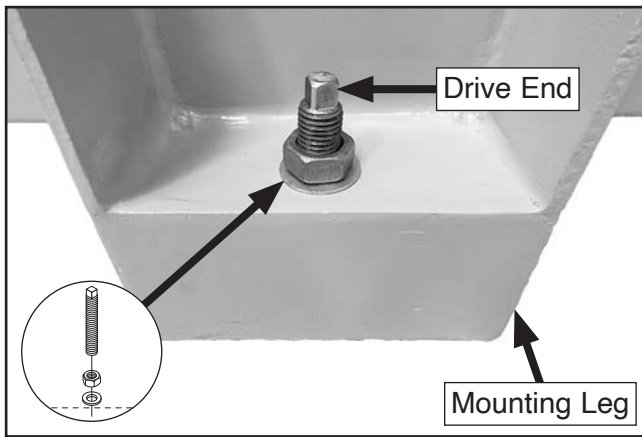

Figure 25. Leveling foot components.
7. Have an additional person install (1) M20-2.5 x 100 threaded bolt, M20-2.5 hex nut, and 20mm flat washer into each mounting leg with drive end on threaded bolt pointing up, as shown in **Figure 25** on **Page 27**.